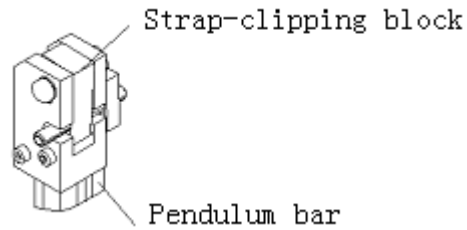
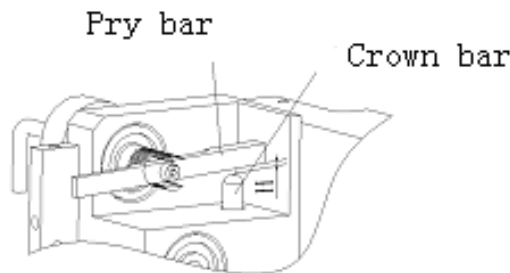
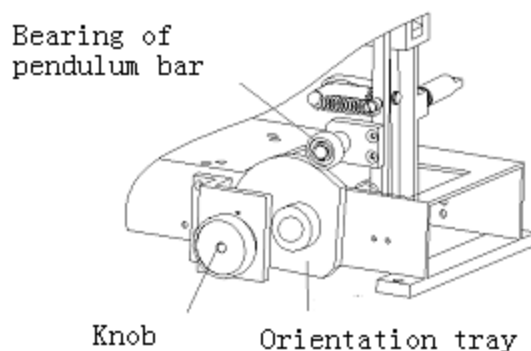

Fig4-6
Fig4-7
Fig4-9
d. Strap-clipping block (Fig4-6)
1mm bailing strap passes through two strap wheels shown as the Figure and the gap between crown bar and pry bar is 0.3mm (See Fig4-7)
This position is located at front right door. Adjustment of tightness force shown as Fig4-9. Generally knob to adjust strapping force is seized and can't turn. On adjusting strapping force, first forcibly push the knob to the bottom. At this time you can freely turn the knob. The strapping force is decreased while turning knob in clockwise direction and increased in anticlockwise direction. In general, on delivery the position of swing link bearing and orientation tray shown as the left Figure. Generally it is not necessary to adjust their corresponding position.
d. Strap head is split: The reason is that the strapping force is too large. Properly adjust strapping force small (See Fig4-9)
- b. The position of crown bar is too high: If not on strap-withdrawing, the gap between crown bar and pry bar should be 0.3mm (See Fig4-7).
(2) Trouble of pre-strap-feeding mechanism or strap storehouse problem causes small strap storage volume. Find out the trouble and solve it.
- d. Strap head is split: If strap head is split, it will not run smoothly in the strap path and lead to the situation that strap is not fed to the position. The reason is that the strapping force is too large. Therefore properly adjusting strapping force will eliminate this situation (See Fig4-9).
- h. Can't strap firmly (See Fig4-6 and Fig4-9):
- ① Strapping adjustment device is at the loose position
- ② Strap-clipping block wears seriously
- ③ Teeth groove in the strap-clipping block is full of strap scraps
- ④ Tension spring of pulling bar is cracked
- ⑤ Push bearing of pendulum bar is cracked
- ⑥ Torsion spring is cracked
- ① Strap-withdrawing time is not enough
- ② The force of strap-withdrawing is too big or too small. Check the gap between strap-withdrawing crown bar and pry bar (See Fig 4-7)
- ③ Resistance of frame is too large
- ④ Motor belt is too loose
- 5.3.1.3 Power light is not on: ① Whether power plug and wiring socket contacts well
② Whether air switch is on OPEN